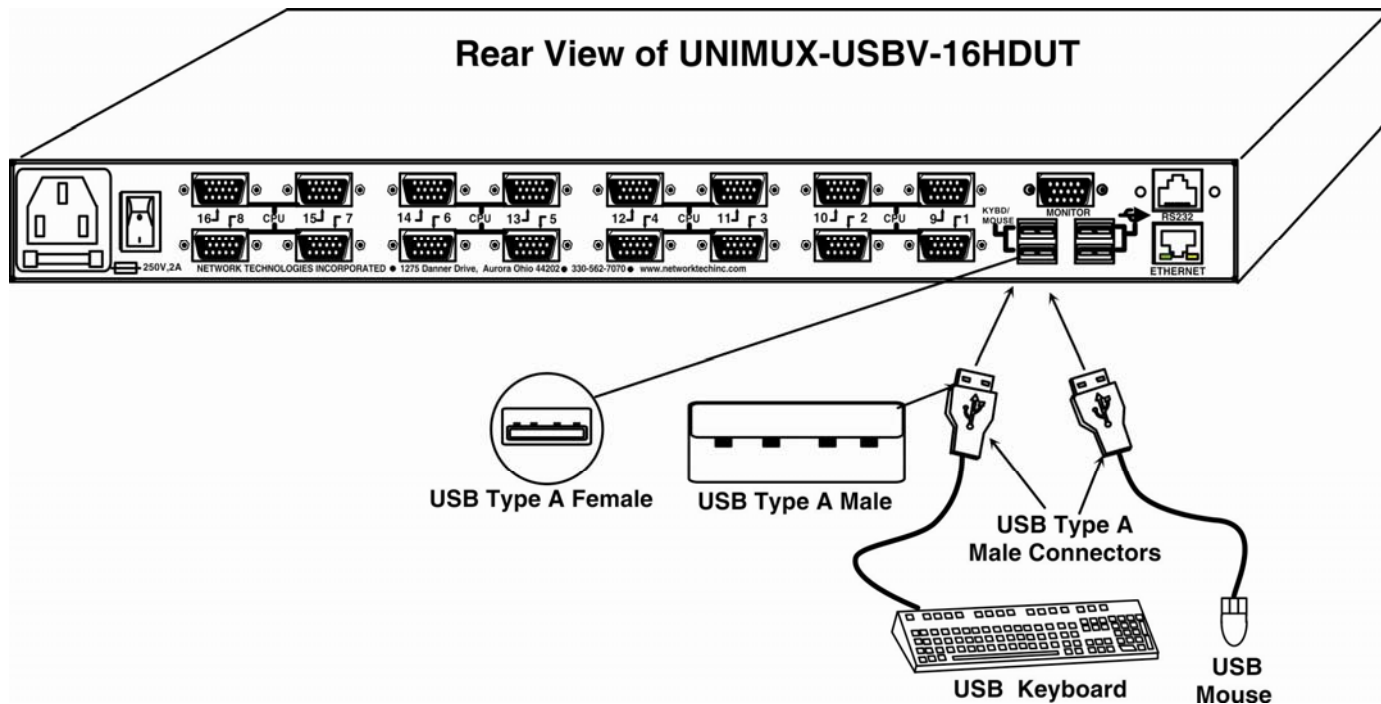
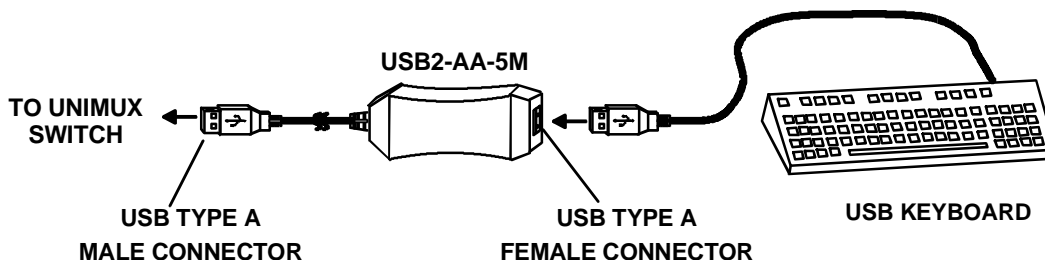

Figure 5- Install user devices (mouse and keyboard)
Figure 6- Use USB2-AA-5M to extend a device, or a computer
- Connect the user devices to the USB type A female ports labeled "KYBD/MOUSE" on the rear of the UNIMUX switch (see Figure 5 ). Connection to these ports will provide user control of the UNIMUX switch.
**Note:** If there are four (4) USB type A female ports present (models with transparent USB support only), then the two additional USB ports labeled with the USB symbol (  ) are available for connection of any USB device. However, the keyboard and mouse intended to control the UNIMUX switch must be connected at the USB ports labeled "KYBD/MOUSE".
**Note:** If device cables are not long enough to reach the UNIMUX switch, they can be extended up to 20 meters using up to 4 NTI USB2-AA-5M USB 2.0 Active Extensions (see Figure 6)- purchased separately. Contact your NTI salesperson for more details by calling (800) 742-8324 (800-RGB-TECH) or (330) 562-7070 or visit our website at <http://www.networktechinc.com>.